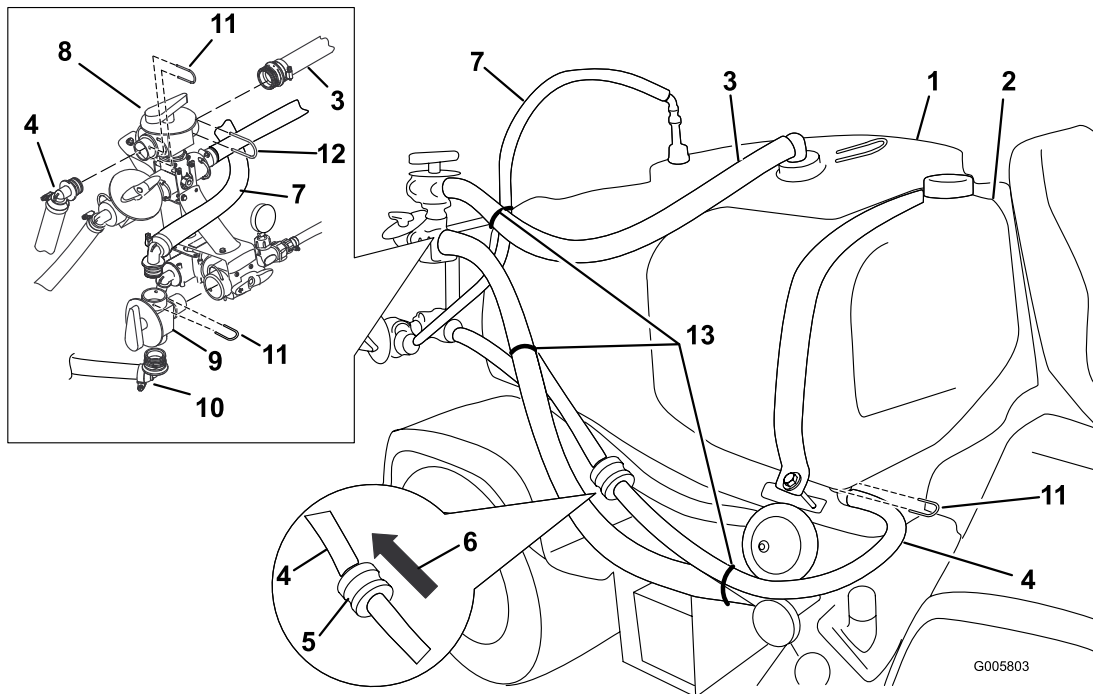

Figure 26
2. Install the hose from the main tank upper port to the main tank side of the rinse tank rinse valve (Figure 26).
6. Use the plastic ties located in loose parts to secure the rinse tank suction hose to the main pump hose as shown in Figure 26.
3. Plumb the hose under and behind the main pump and main tank suction hose, to the barbed elbow fitting in the rinse tube (Figure 26).